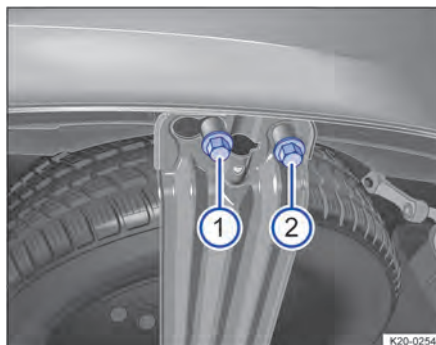

Fig. 221 Underneath the vehicle: retaining bolt ① and securing bolt ② on the spare wheel bracket
1. Use the box spanner from the vehicle toolkit to loosen the retaining bolt → Fig. 221 ① until it is free.
2. Unscrew the securing bolt → Fig. 221 ② completely.
6. Screw in the securing bolt → Fig. 221 ② fully with the box spanner.
7. Screw in the retaining bolt → Fig. 221 ① fully with the box spanner.